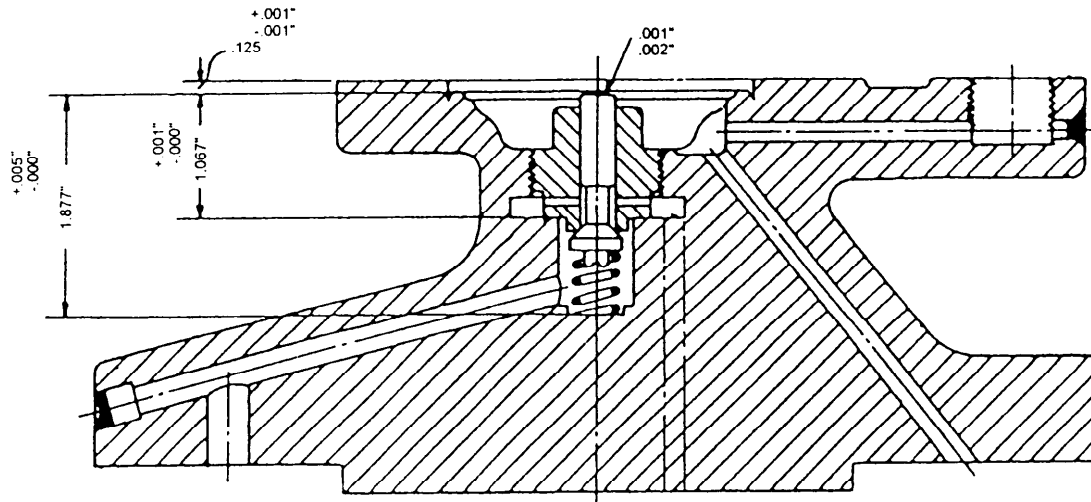

Figure 13-11.—Critical dimensions of the Leslie top cap.
When the controlling valve is installed, you must check the clearance between the top of the valve stem and the diaphragm. It is absolutely mandatory that this clearance be between 0.001 and 0.002 inch (fig. 13-11). If the clearance is less than 0.001 inch, the diaphragm will hold the control valve open, allowing steam to flow to the main valve at any time the throttle valve is open. If the clearance is more than 0.002 inch, the diaphragm will not fully open the control valve. This means the main valve cannot open fully, and the unit cannot be brought up to full speed and capacity.
**TOP CAP.**—If the top flange of the top cap of the governor becomes damaged, you must be extremely careful when you machine it. Consult the manufacturer's technical manual for the correct clearances. (See fig. 13-11.)